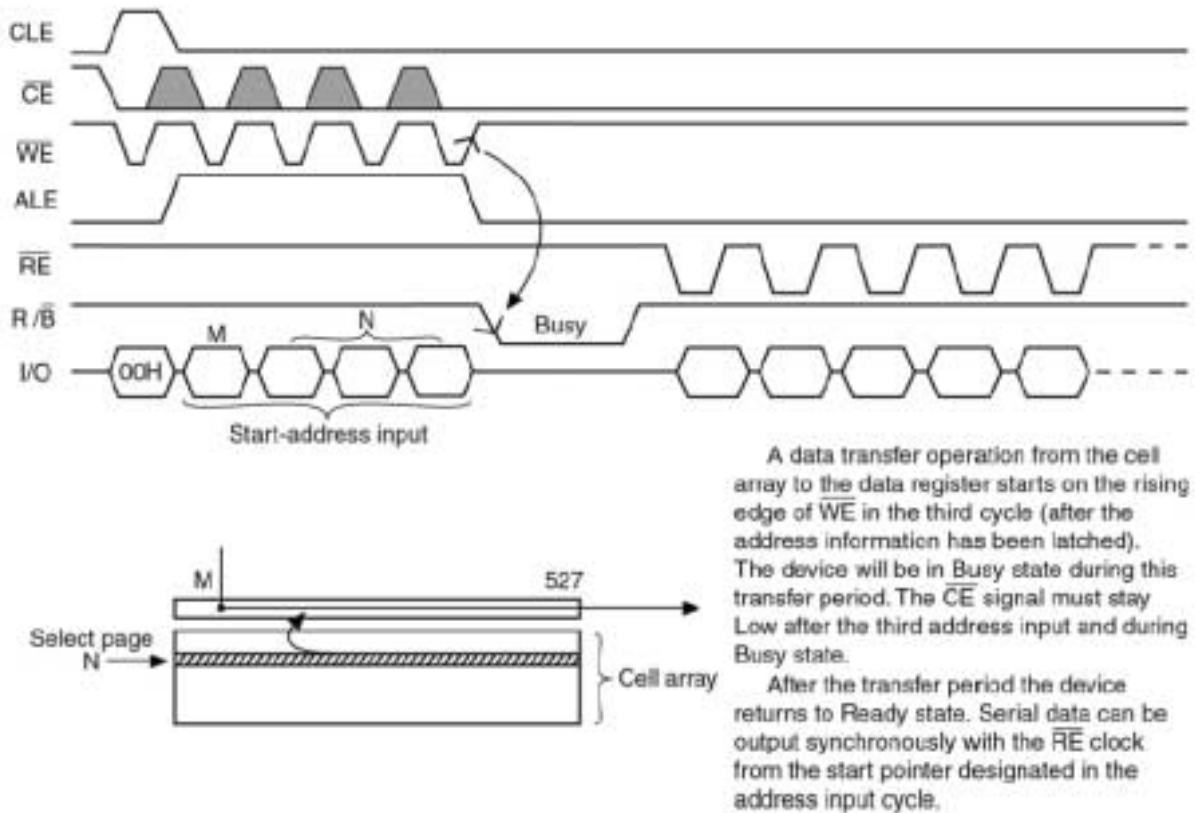

Figure 6. NAND Read Mode (1) Timing
2.6.1 Read Mode (1) 00H
Read mode (1) is set when a 00H command is issued to the Command register. The three-byte address N, gives the page to be read and the 1-byte pointer M gives the offset into the page. Refer to Figure 6 below for timing details and the block diagram.